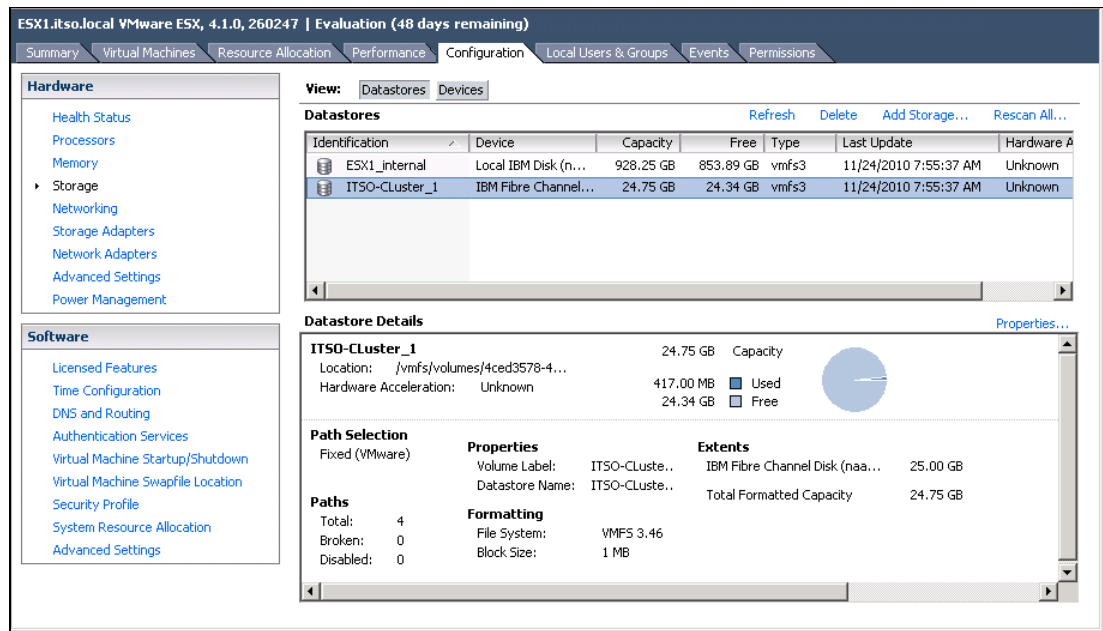

Figure 12-45 Add Storage task complete
- Follow the wizard to complete the attachment of the disk. After you click **Finish**, the wizard closes and you return to the storage view. In Figure 12-45, you see that the new volume has been added to the configuration.